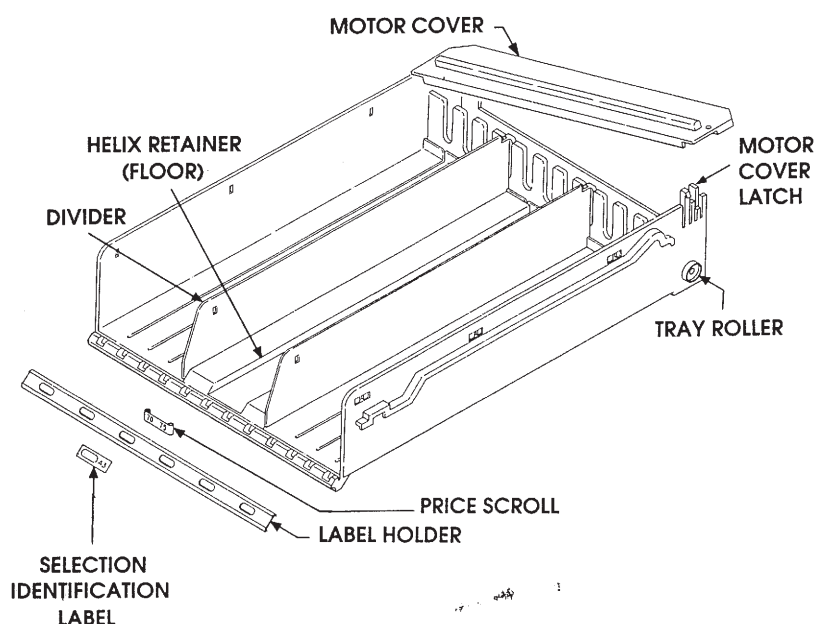

Figure 7
3. Push on the motor cover latch and remove the motor cover. See Figure 7.
8. Replace the motor cover by hooking the left end into its retainer on the tray and snapping the right end into the motor cover latch. See Figure 7.